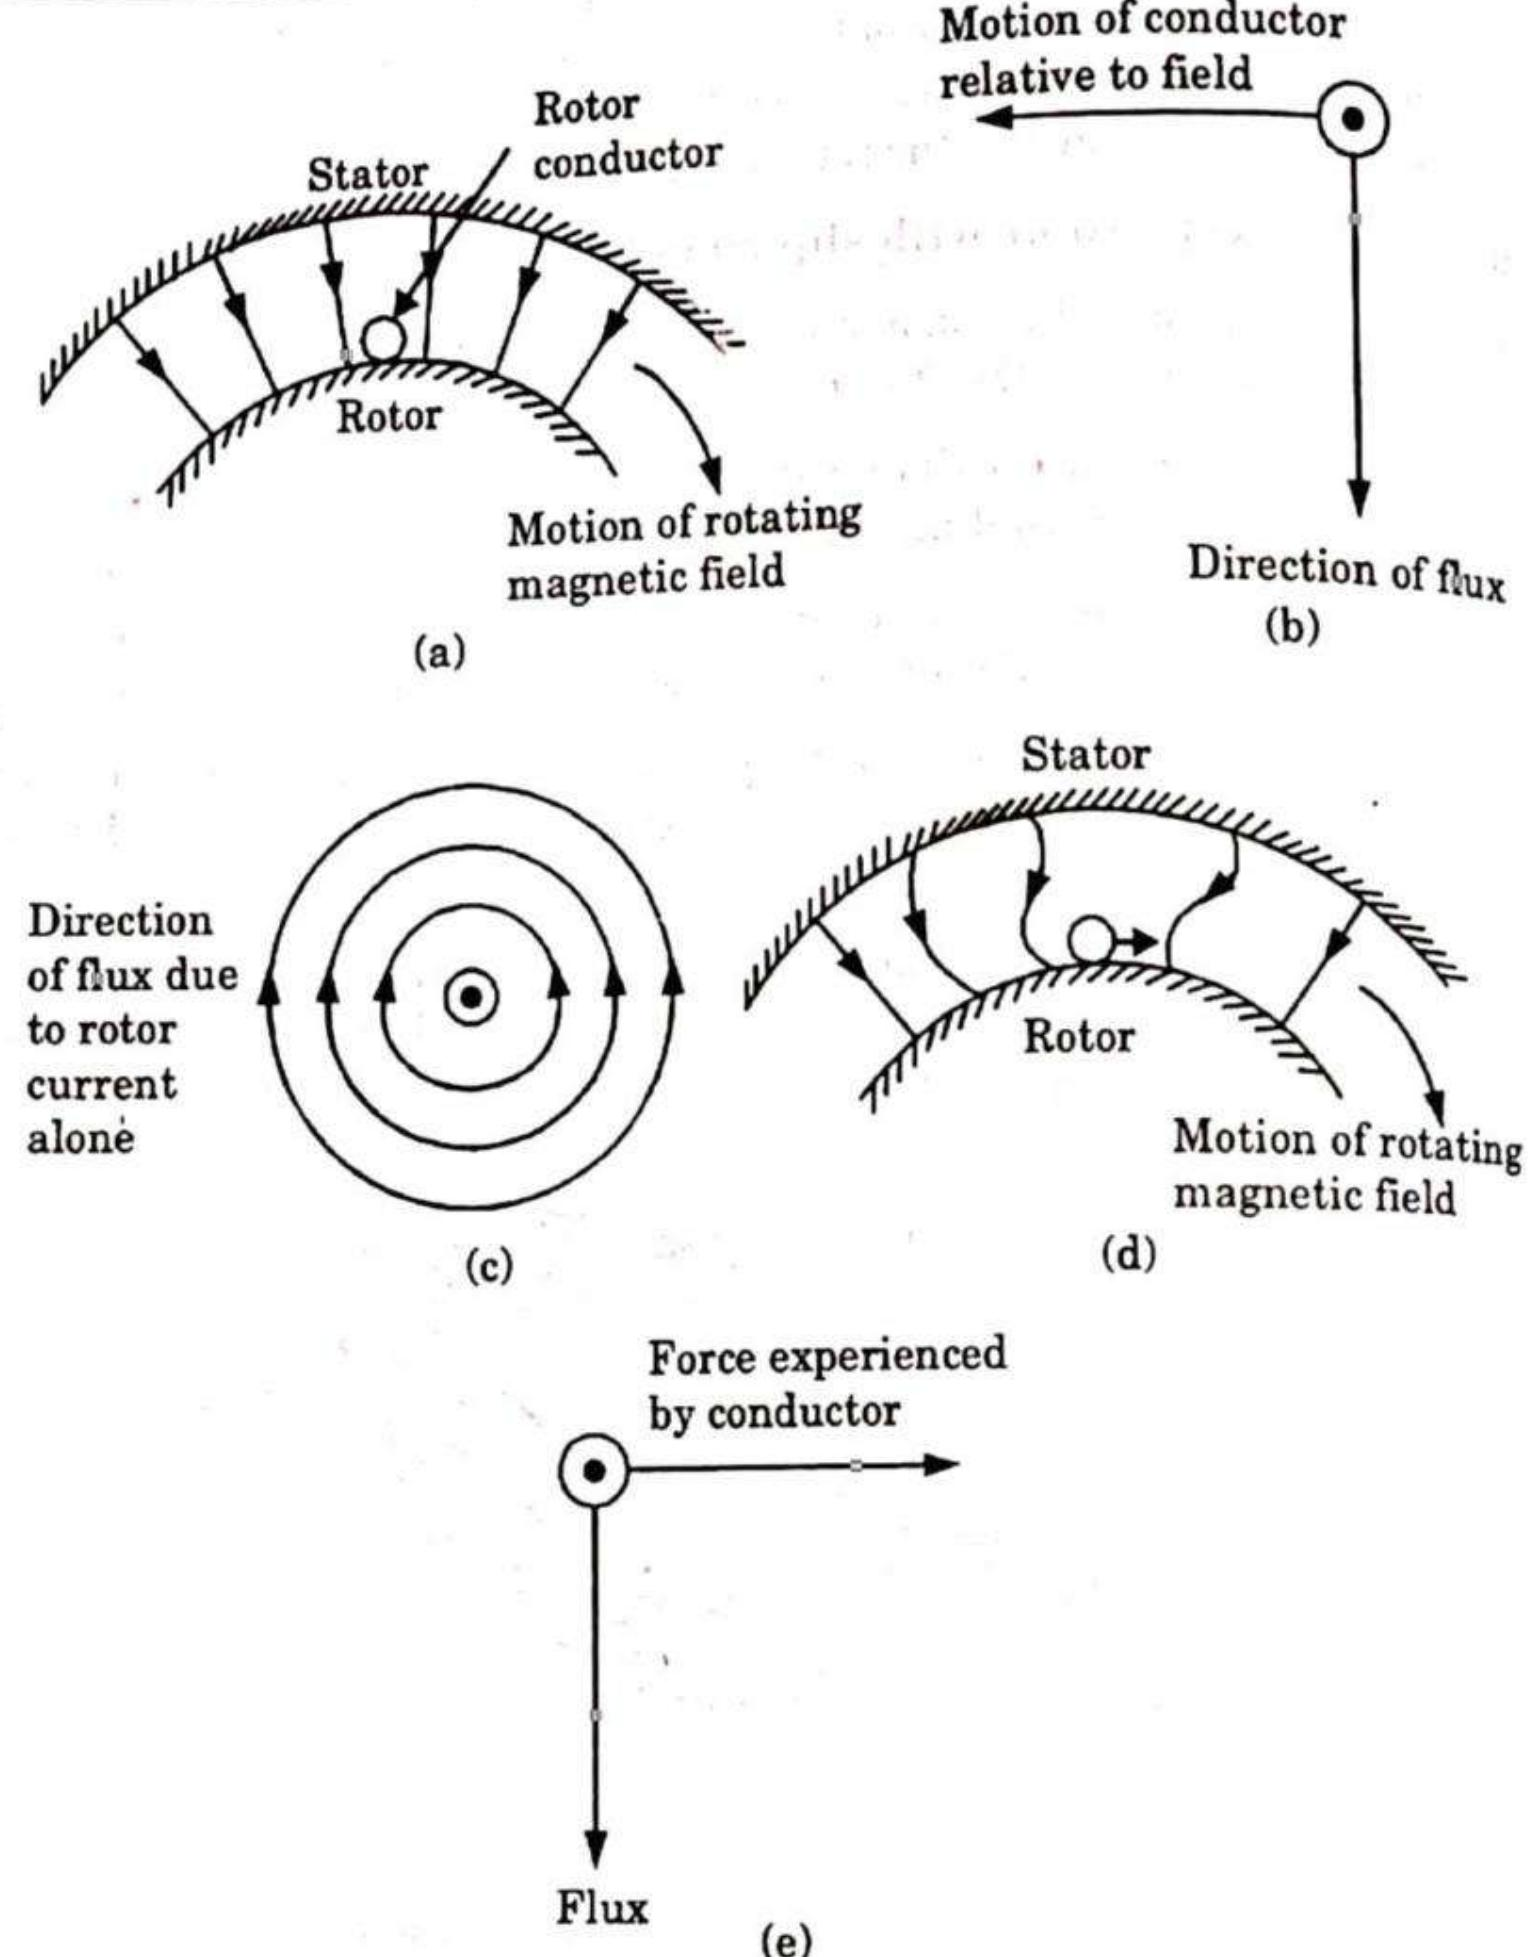

Fig. 4.19.1.
1. Let us consider that the rotor is stationary and one conductor is on the rotor as shown in Fig. 4.19.1.
5. By right-hand rule the direction of induced current is downward as shown in Fig. 4.19.1(b).
6. Now the current in the rotor conductor produces its own magnetic field as shown in Fig. 4.19.1(c) due to this a force is produced on the rotor conductor.